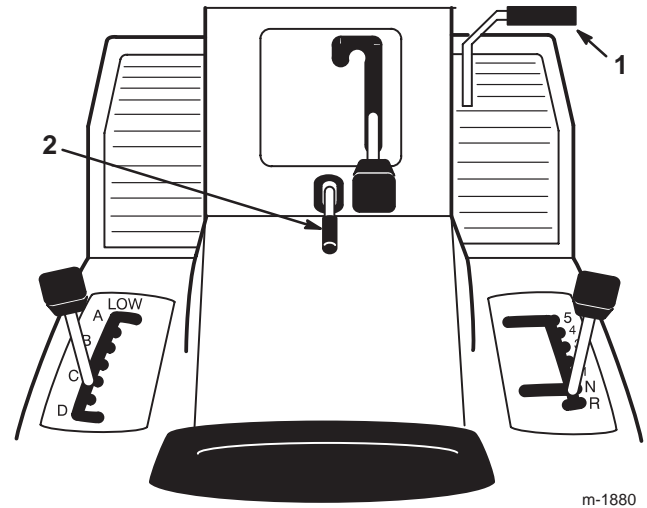

Figure 3
1. Push the clutch/brake pedal (Fig. 3) down and hold it.
2. Lift the parking brake lever (Fig. 3) up and gradually take your foot off of the clutch/brake pedal.
1. Push down on the clutch/brake pedal (Fig. 3).